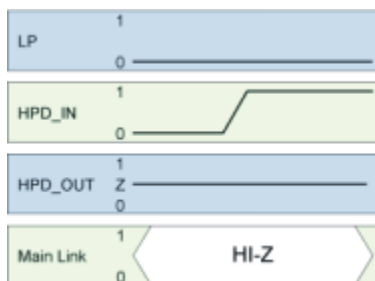

Figure 14.
- Case one: In this case HPD\_IN is initially LOW and the low power pin is also LOW. In this initial state the device is in a low power mode. Once the HPD input goes to a HIGH state the device remains in the low power mode, with both the main link and auxiliary I/O in a high impedance state (Figure 14).